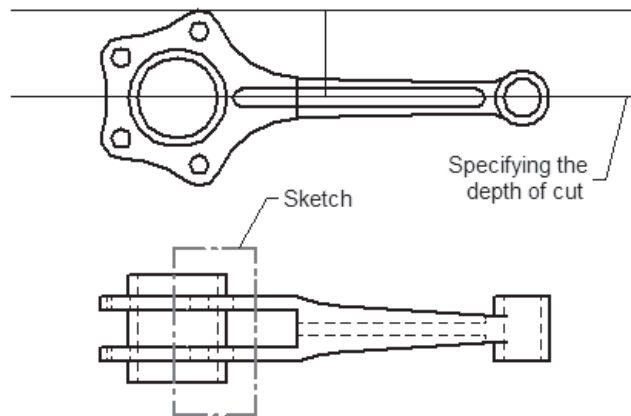

Figure 12-16 Specifying the profile and the depth of the cut
2. Draw the sketch, as shown in Figure 12-16. After drawing the sketch, choose the **Finish** button from the ribbon bar to exit.
3. Next, you are prompted to specify the distance for the depth of the cut. This distance can be specified in the dimension box present on the ribbon bar or on the other orthographic view, as shown in Figure 12-16. After specifying the depth of the cut, you are prompted to select the view that needs to be broken.